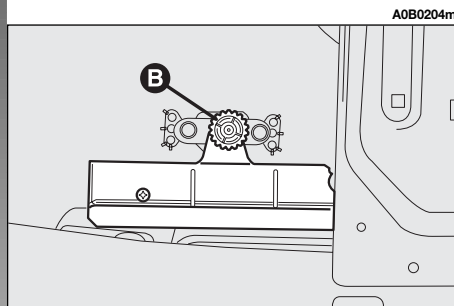

fig. 50
- Slacken the knob (**B-fig. 50**) and withdraw the complete unit.
— Refit the transparent cover and install the unit locking it with the knob (**B**-fig. 50).